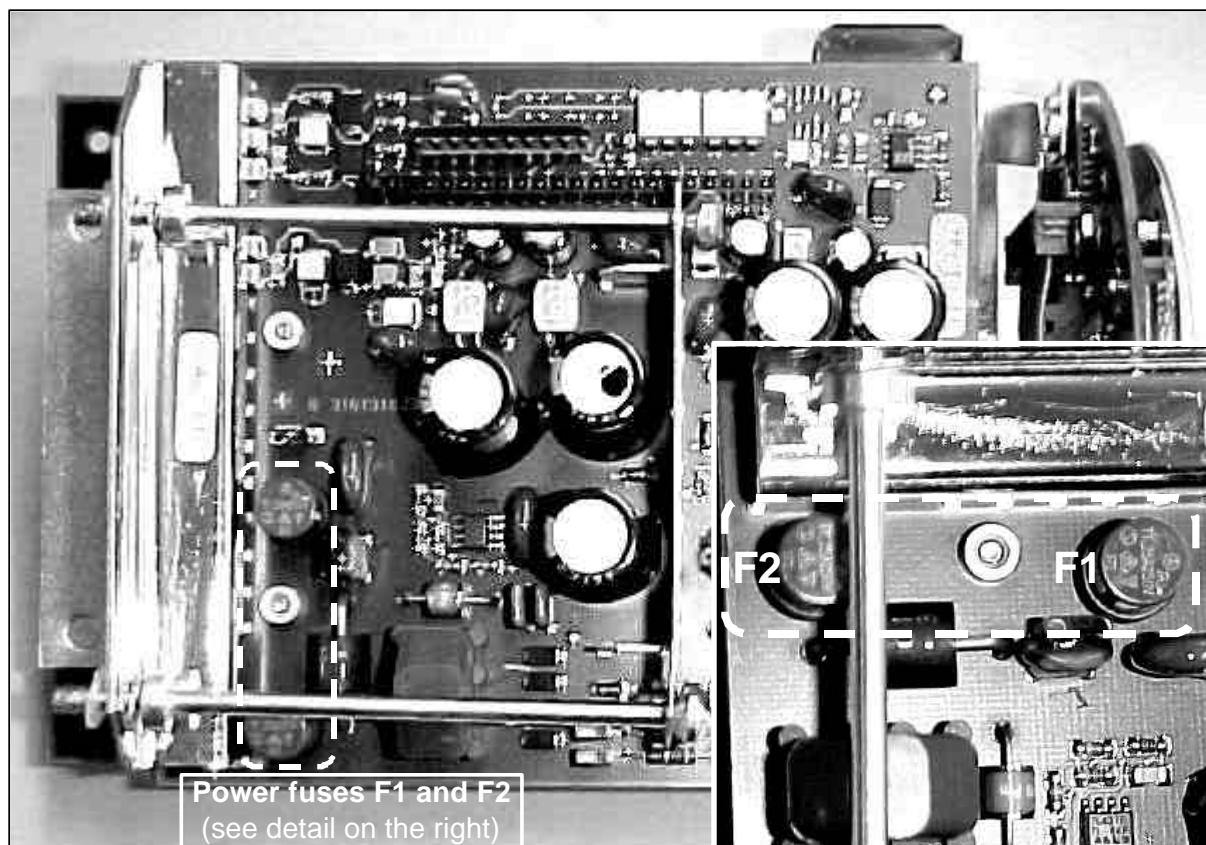

Figure 12: IFC 090-EEEx electronics unit with 24 Vac/dc power supply.
5. The defective power fuse(s) F1 and/or F2 (see figure 12 on the next page) can be replaced now. The 24 Vac/dc power supply uses two sub-miniature fuses type TR 5 that are rated **T1.25A** in accordance with IEC 127-3 publication (part No. **5.09080.00.00**).